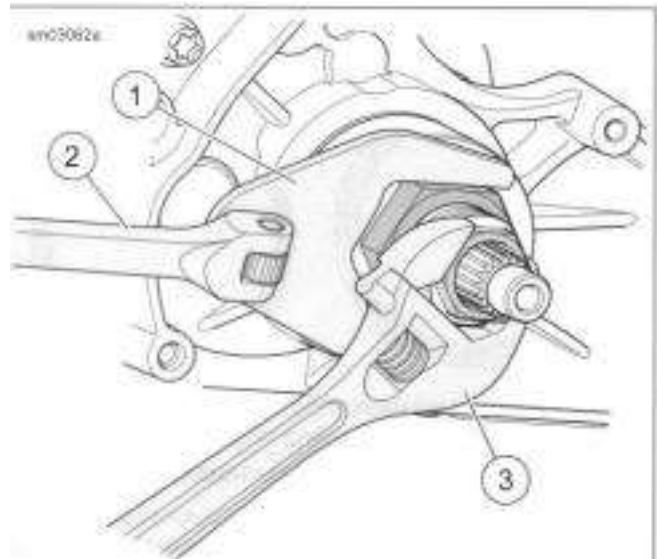

Figure 5-69. Press Seal into Crankcase
5. See Figure 5-69. Install new main drive gear large seal using MAIN DRIVE GEAR SEAL INSTALLER KIT (PART NUMBER: HD-47856).